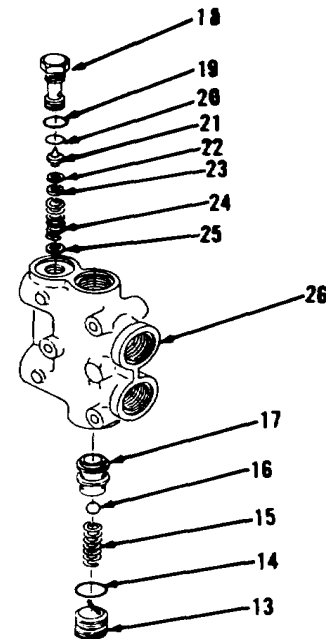

Figure 10-74.
4. Using an alignment punch and hammer, remove seat (11) and piston (12).
5. Loosen plug (13) carefully to relieve tension of spring (15). Remove plug (13), preformed packing (14), spring (15) and ball (16, Figure 10-74). Discard preformed packing (14).
6. Using an alignment punch and hammer, remove seat (17).
7. Loosen plug (18) carefully to relieve tension of spring. Remove plug (18), preformed packings (19 and 20), valve (21), shim(s) (22), four shims (23), spring (24) and four washers (25) from body (26). Discard preformed packings (19 and 20). Tie shim(s) (22 and 23) together and tag for identification.